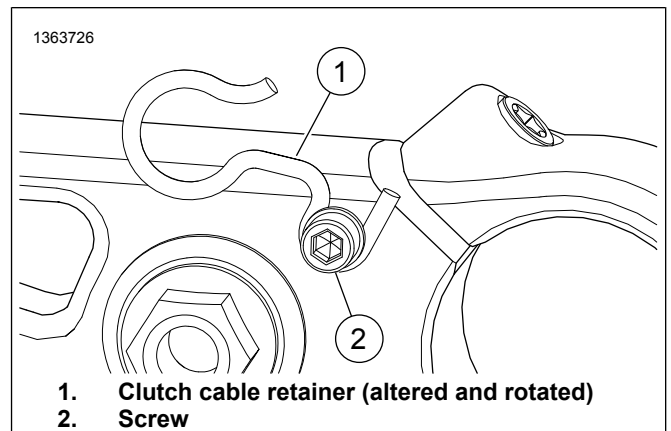

Figure 4. Altered Clutch Cable Retainer
1. Figure 4 Loosen screw (2).
2. Remove OE clutch cable retainer (1).